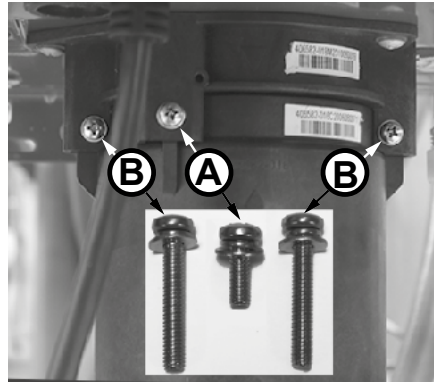

Figure 1 - Identify cartridge screws
6 Locate the three (3) screws securing the X3®/Bypass cartridge as shown in Figure 1. Remove